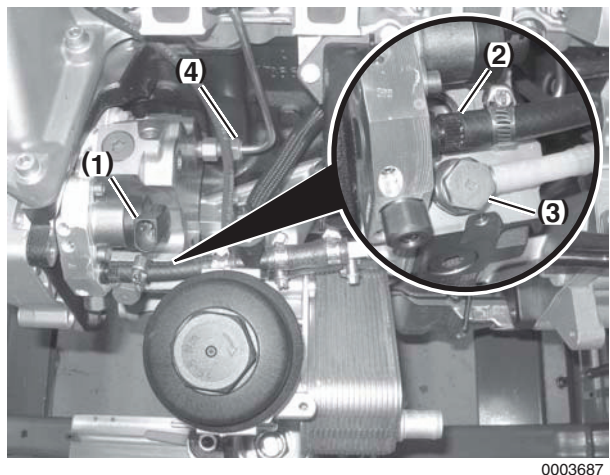

Figure 6-35
- NOTICE:** Start both union nuts on high-pressure line before tightening either one. Install high-pressure line and tighten union nuts (**Figure 6-35, (4)**) using special tool OEM No. 13 5 020 to 23 N·m (204 in.-lb). See *Remove and Install High-Pressure Fuel Lines on page 6-14*.
- Connect fuel return line and banjo bolt (**Figure 6-35, (3)**) with new seal washers.
- Connect fuel supply line (**Figure 6-35, (2)**).
10. Connect electrical connector to fuel volume regulator (**Figure 6-35, (1)**).